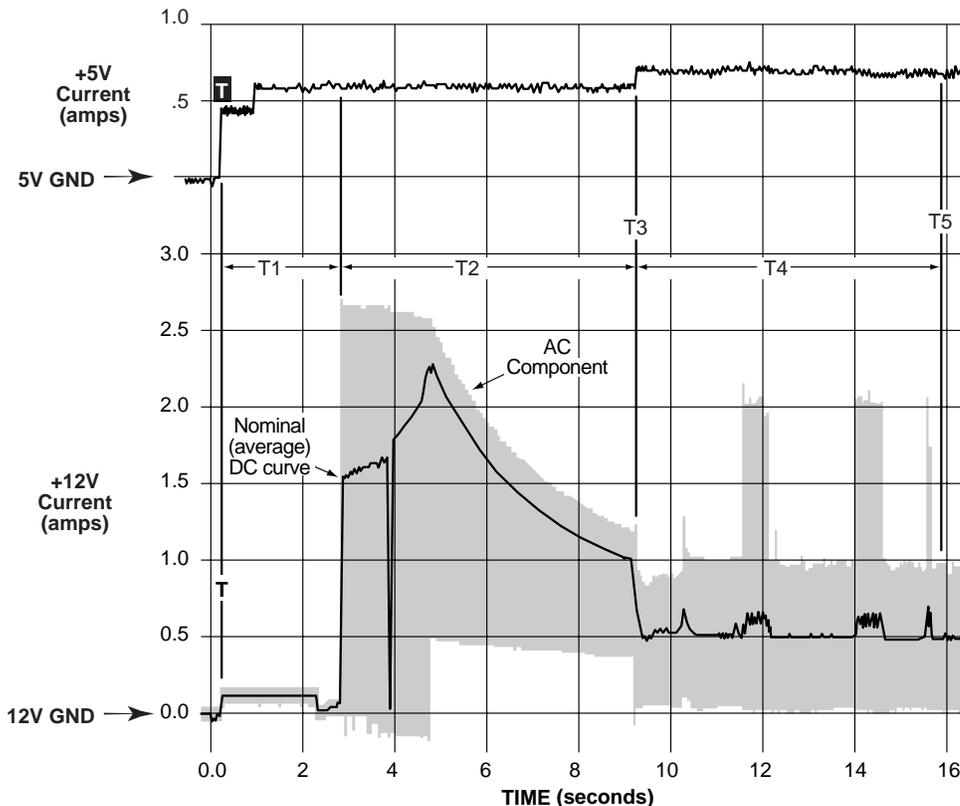

Figure 3. Typical Barracuda 4LP family drive +5 V and +12 V current profile
- [3] See +12 V current profile in Figure 3.
Figure 3 identifies the drive +5 V and +12 V current profile. The current during the various times is as shown: